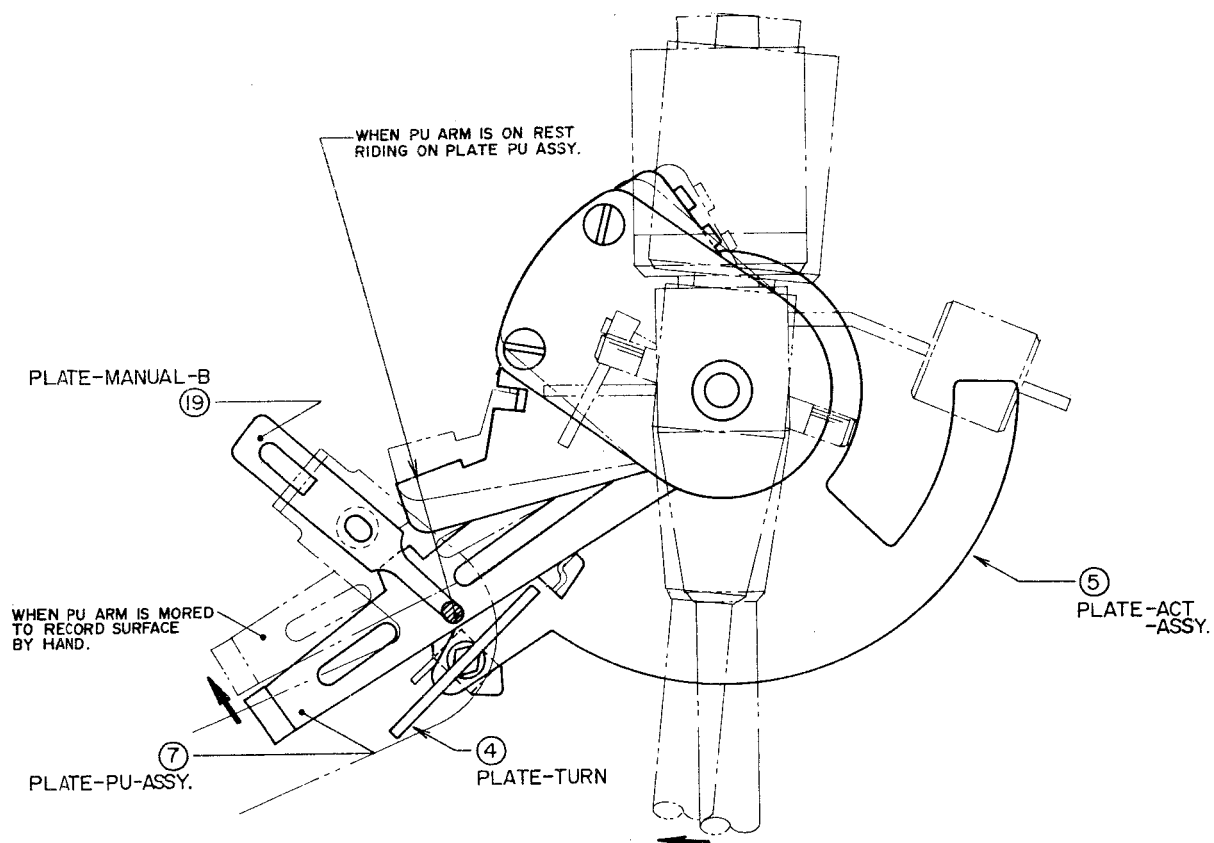

Fig. 10 When operated manually
When the pick-up arm stylus tip is lifted during performance (after the record tune or during performance) for movement by hand to a desired point, PLATE-MANUAL-B (19) which rides on PLATE-PU-ASSY (7) separates and drops as shown in Fig. 10.